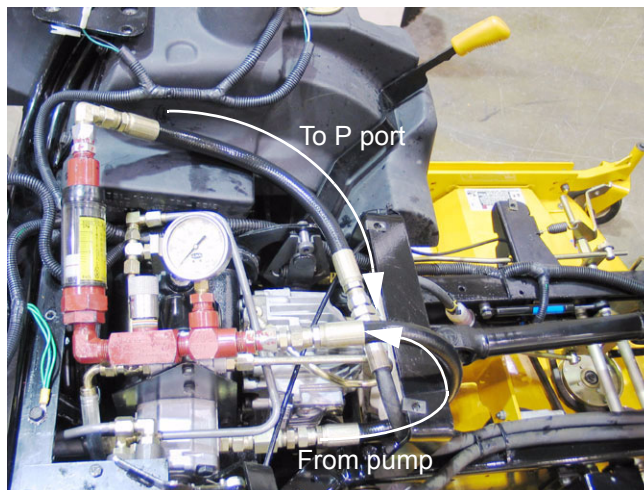

Figure 6.7
- 6.7. To test the auxiliary pump, use a flow and pressure gauge set. See Figure 6.7.